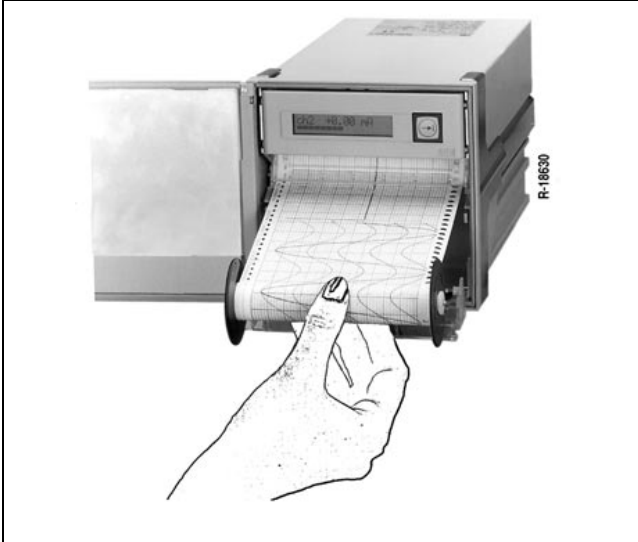

Fig. 12 Removing the chart (here: LC display version)
2. Hold chart as shown in fig. 12 and remove from axis.